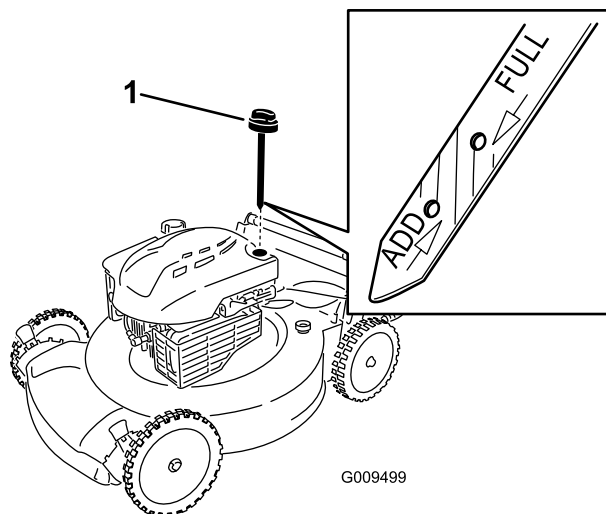

Figure 10
2. Remove the dipstick (Figure 10).
5. Read the oil level on the dipstick (Figure 10).
through 5 until the oil level is at the Full mark on the dipstick (Figure 10).